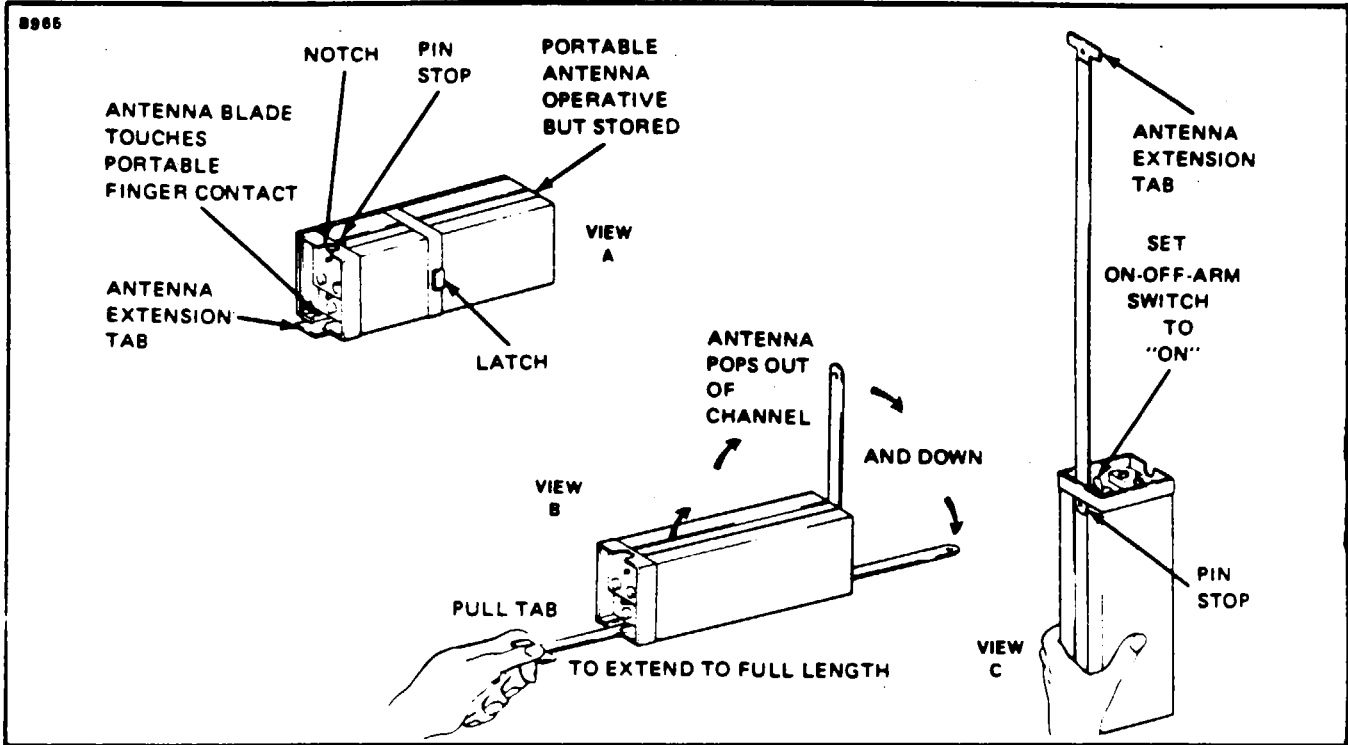

Figure 23-2. ELT Portable Folding Antenna (Narco)
The ELT is located on the right side of the fuselage aft of sta. 259.30. (Refer to Figures 23-2 and 23-3.)
5. Extend the portable antenna. (Refer to Figure 23-2.)